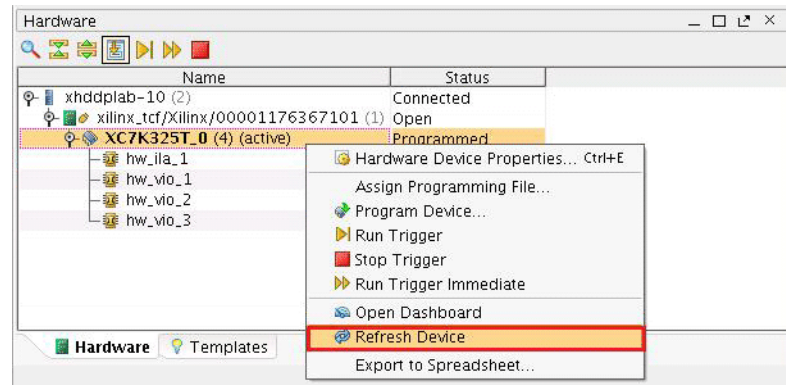

Figure 33: Refresh Device
8. When programming completes, right-click the programmed target device in the Hardware list and select **Refresh Device** (Figure 33).